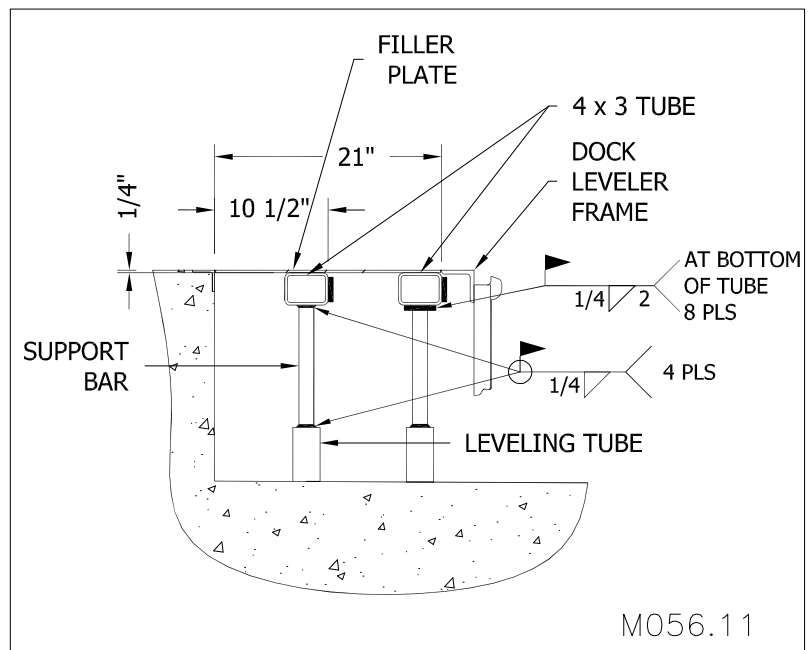

Figure 29: Welding the 4 X 3 Rectangular Tubing to the Curb Angles
4. ___ Slip the levelling tubes over the support bars and lightly tack in place so that it does not fall off while inverting the rectangular tube as indicated in "Figure 29: Welding the 4 X 3 Rectangular Tubing to the Curb Angles" on page 25.
5. ___ Position the 4 X 3 inch rectangular tubes as indicated in "Figure 29: Welding the 4 X 3 Rectangular Tubing to the Curb Angles" on page 25. Make sure the top surface of the rectangular tube is 1/4" below the top surface of the curb angle. This will allow the filler plate to be welded flush to the top surface of the curb angle.
6. ___ Weld the ends of the rectangular tubing to the side curb angle as indicated in "Figure 29: Welding the 4 X 3 Rectangular Tubing to the Curb Angles" on page 25. Add vertical welds at the ends of the tube between tube surface and side curb angle surface.
8. ___ Weld the levelling tubes to the support bars using full fillet welds as indicated in "Figure 29: Welding the 4 X 3 Rectangular Tubing to the Curb Angles" on page 25.